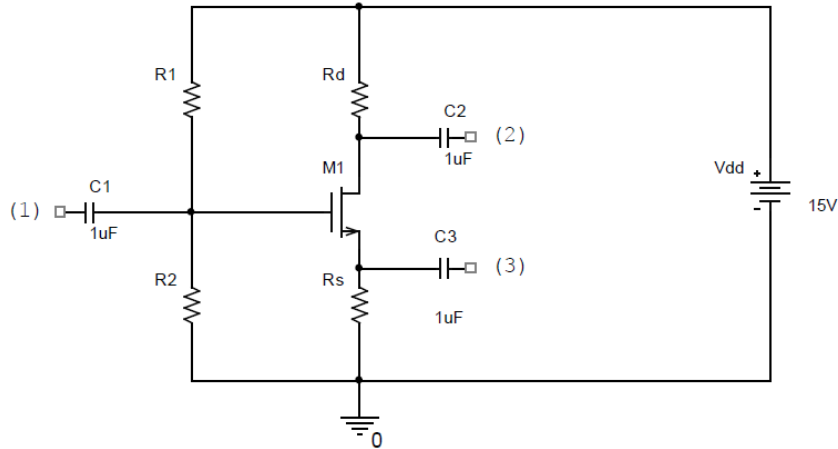

Figure 8-2 MOSFET Universal Amplifier Circuit
1. For the circuit of Figure 8-2, find the values for R_1 , R_2 , R_D , and R_S such that MOSFET is biased with a drain current I_{DS} of approximately $400\mu A$, $V_S = 4V$, $V_D = 9V$, and $V_{GS} = 2.3V$. Make sure the MOSFET is in saturation Assume: $\mu_o C_{ox}(W/L) = 650\mu A/V^2$; $V_T = 1.19V$ (Hint: Use standard resistor values less than or equal to $100k\Omega$.)